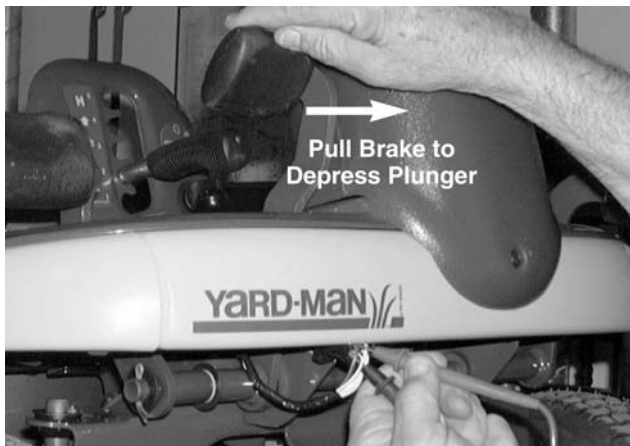

Figure 8-81.
–There will be **CONTINUITY**. See Figure 8-81.
–There will be **NO CONTINUITY**. See Figure 8-81.